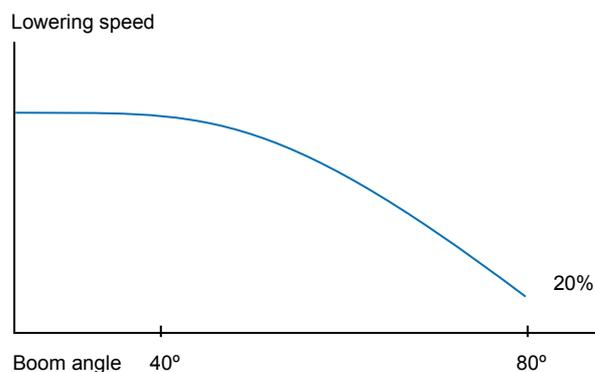

Fig. 10
- The down speed is limited at second boom angles (Fig. 10) >40° (default is 50% of the max speeds)